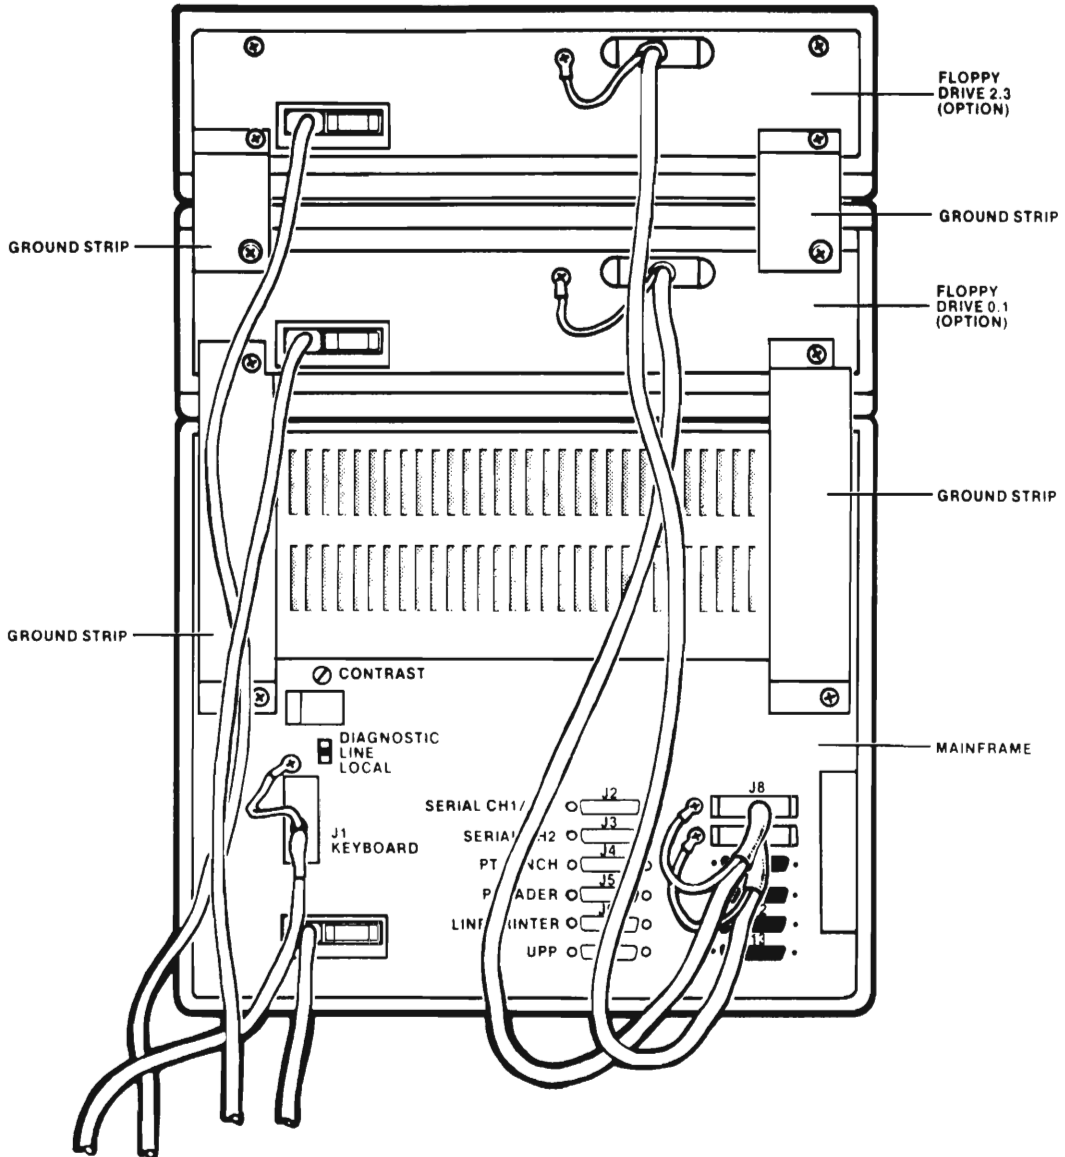

Figure 2-3. Series II/III Mainframe Rear Panel
- b. Disconnect the keyboard cable and all peripheral device cables attached to the mainframe rear panel connectors (see Figure 2-3).